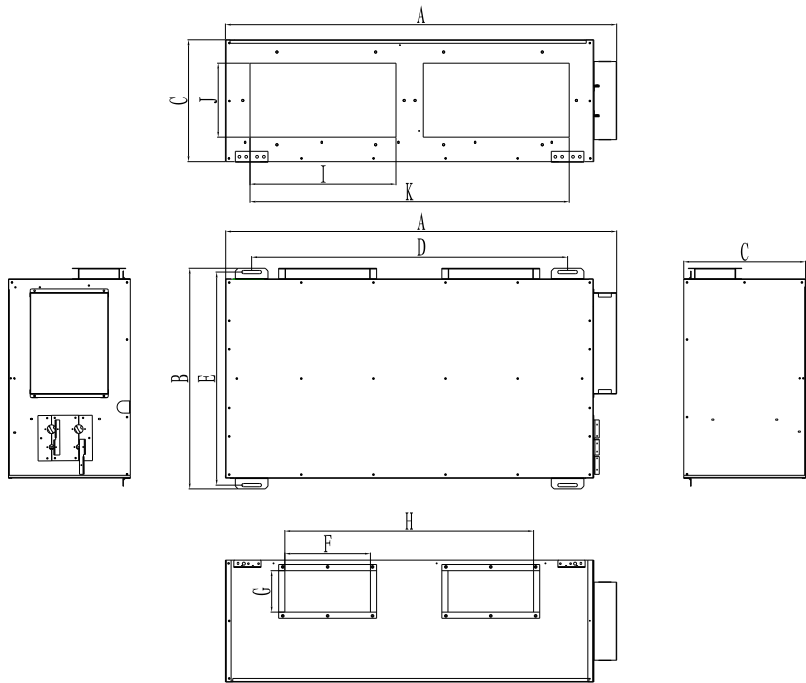

Fig 4
- There is enough space for maintenance and installation as listed in Fig 4;
- Insert M10 Expansion bolts into mounting holes and then drive iron nails into bolts, see Fig 6. As for the hole intervals, please refer to Fig 4.